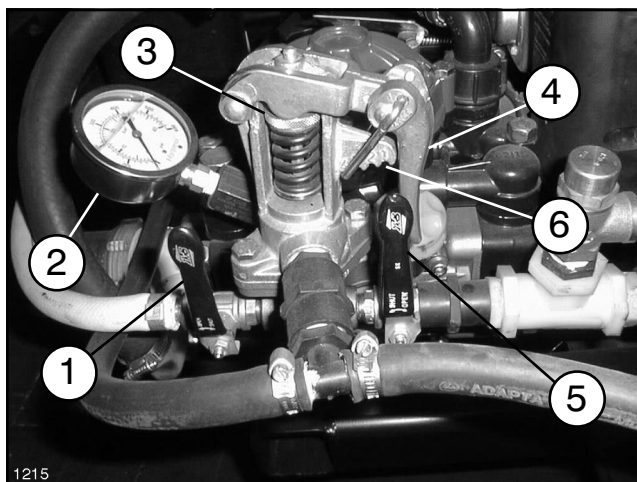

FIG. 11
A. Spray Gun Valve: Opens and closes to control the supply of spray solution to the Hand Spray Gun. See FIG. 11.
- A. Clamping the Relief Valve Lever down with the ball hook in number one position, the pressure is about 100 PSI See Fig. 11.